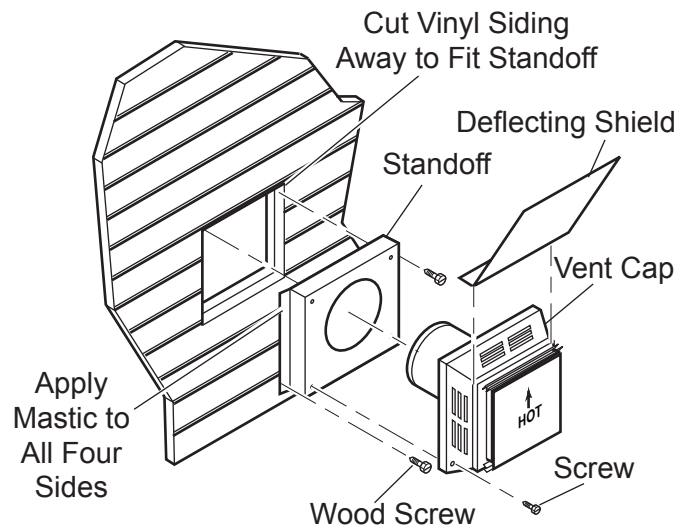

Figure 22- Installing Vinyl Siding Standoff
For vinyl siding, stucco, or wood exterior use vinyl siding standoffs between vent cap and exterior wall. The vinyl siding standoff prevents excessive heat from melting the vinyl siding material. Bolt the vent cap to the standoff. Apply non-hardening mastic around outside edge of the standoff instead of the vent cap assembly. Use wood screws provided to attach the standoff. See Figure 22.
1. Establish vent hole through the wall. *See Figure 22, page 20.*